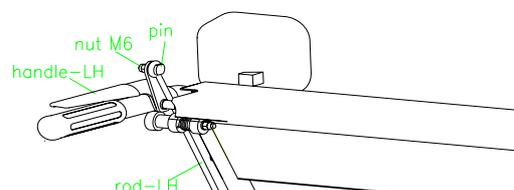

FIG 4
2.3.2 Assemble the upper side of Rod-LH onto the left handle with the pin and the nut M6. (FIG 4)